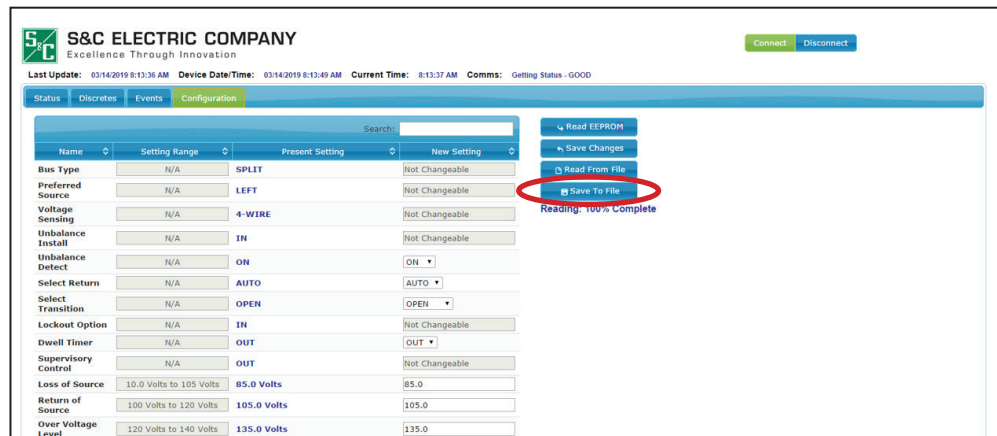

Figure 21. The Save to File button.
STEP 4. Click on the **Save To File** button to save the settings to a file. See Figure 21.